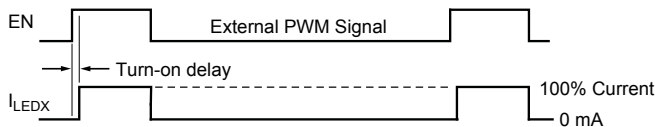

Figure 2. Timing diagram of external PWM signal and LED current
- **PWM dimming using the EN pin.** PWM dimming is performed by applying an external PWM signal on the EN pin. When the EN pin is pulled high, the A8501 turns on and all enabled LEDs sink 100% current. The sequence is shown in figure 2. For optimal accuracy, the external PWM signal should be in the range 100 to 300 Hz. The slight delay between PWM signal and the LED current causes an error. To compensate for the error, a small turn-on delay should be added to the PWM signal as shown on page 10 of the Performance Characteristics section. When EN is pulled low, the boost converter and LED sinks are turned off. The compensation (COMP) pin is floated, and critical internal circuits are kept active. If EN is pulled low for more than tPWML, the device enters shutdown mode and clears all internal fault registers. As an example, for a 2 MHz clock, the maximum PWM low period while avoiding shutdown is 65 ms.